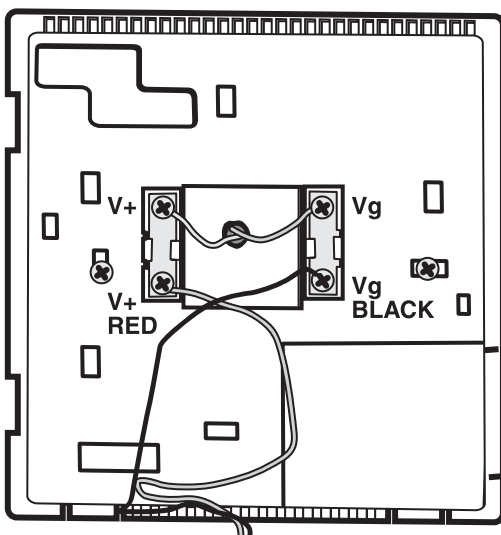

Fig. 4 — Backplate Connector Terminals
8. Connect two wires from the equipment control module to the display module mounting base, being careful not to over-tighten the screws. Correct polarity must be observed when connecting the two wires. If wires are connected incorrectly, the display module will not operate. See Fig. 4 and 5.